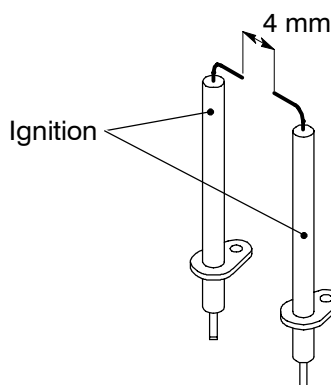

Fig. 2
- 2 Check for the correct distance between the metallic edges of the ignition electrodes (see Fig. 2).